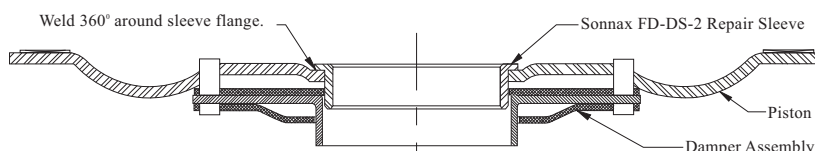

Figure 3
7. Weld 360° around the flange outside diameter. A TIG weld is preferred to ensure a strong, flat and leak proof weld (see Figure 3).